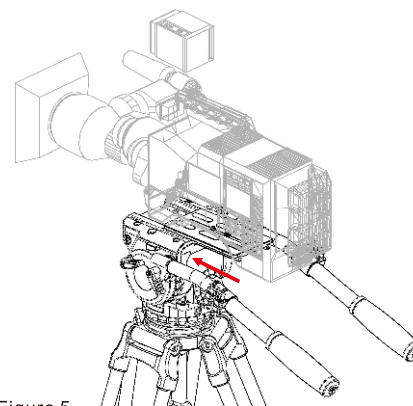

Figure 5
- ① As shown in figure 5, (after you have loosened the QR Clamp Locking Knob by turning it counter-clockwise), slide the QR Plate laterally into the Quick Release Clamp and tighten the clamp by turning clockwise.
- ② If the QR plate is attached with QR tripod adapter plate, press the Security Pin Release Button and slide the QR tripod adapter plate into the Quick Release Clamp.